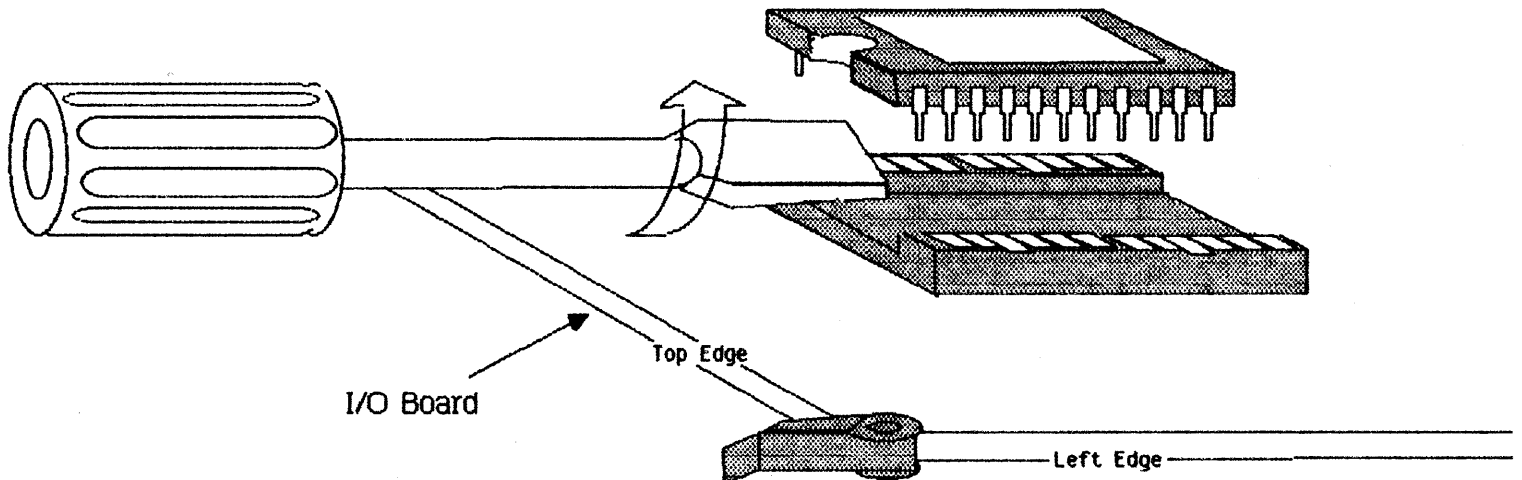

FIGURE 2: REMOVAL OF SOCKETED 24-PIN I/O ROM
- 7) See figure 2, page 6 of this document. Distinguish between the I/O ROM and CPU ROMs by counting the number of pins, or by part number (listed at the beginning of this section).
- NOTE BEFORE PROCEEDING WITH STEP #8: BE SURE, WHEN REPLACING ANY ROM, THAT THE ROM IS ORIENTED SO THAT THE NOTCH IN THE ROM HOUSING IS TOWARD THE TOP OF THE BOARD. This is the way all other circuit chips are installed on the board. When removing the ROM, try to keep it parallel to the socket, so the pins are not bent (fig. 2).
- 8) See figure 2, page 6 of this document. Replace the 24-pin I/O disk controller ROM at the upper left corner of the I/O board with the replacement 24-pin ROM in the kit.